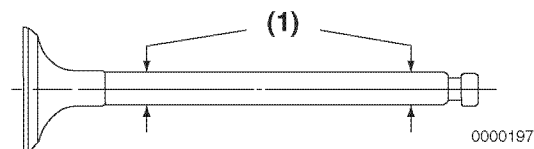

Figure 6-18
Use a micrometer to measure the valve stem diameter. Measure the valve stem near the combustion end and near the opposite end (**Figure 6-18, (1)**). See *Intake / Exhaust Valve and Guide on page 6-7 for the service limit*.